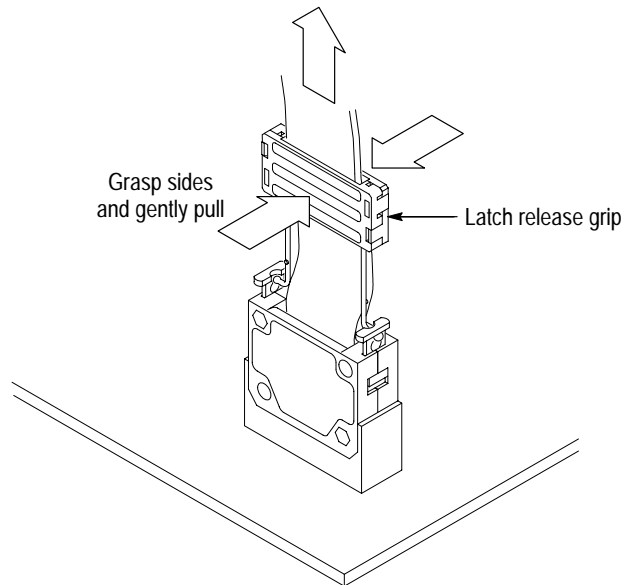

Figure 5: Releasing the probe tip from the latch housing
1. Gently pull the latch release grip to release the probe tip from the latch housing as shown in Figure 5.